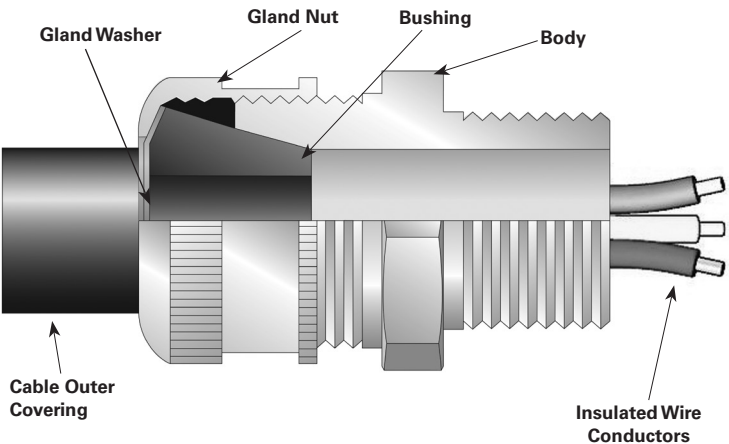

Figure 1
- 3. Install cable through the body far enough to allow wire connections (see Figure 1). If cable does not pass through the body, remove sufficient outer covering of cable to allow conductors to pass through the connector body.